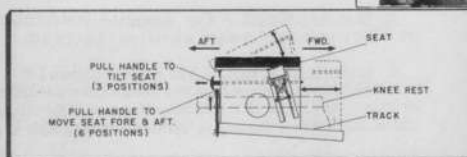

Figure 101 - Tail Gunner's Seat Adjustment Diagram
c. Seat Adjustment. - For complete instructions for adjusting the tail gunner's seat, see figure 101.